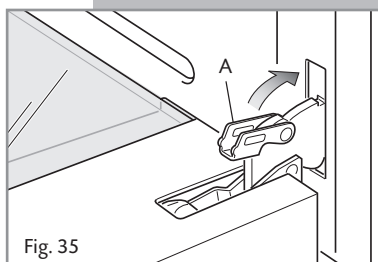

Fig. 35
- Unlock the oven door by opening it completely and closing the lever **A** on the left and right hinges (Fig. 35).